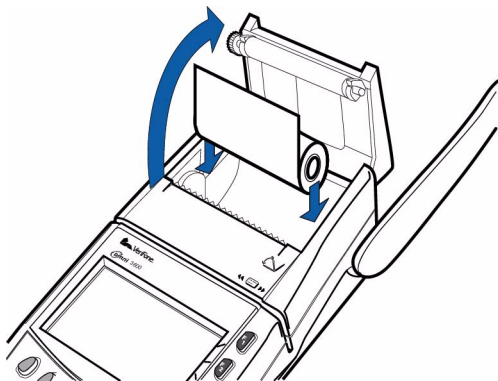

Figure 7 Load Paper
- 4 Hold the paper roll so paper feeds from the *bottom* (Figure 7) and pull approximately two inches of paper free of the roll.
- 5 Drop the paper roll into the printer tray, allowing the free paper to extend outside the printer door (Figure 7).